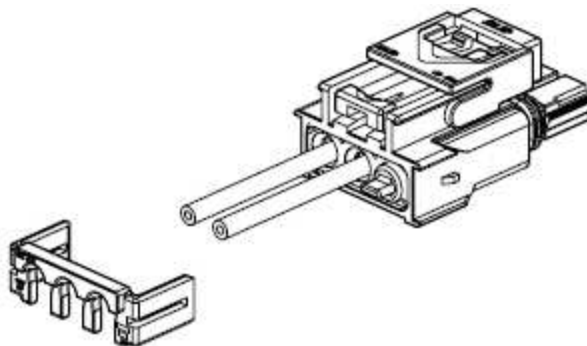

Figure 15
4. Push the sealing plug into the housing cavity until the sealing plug is flush with the gang seal. See Figure 15.